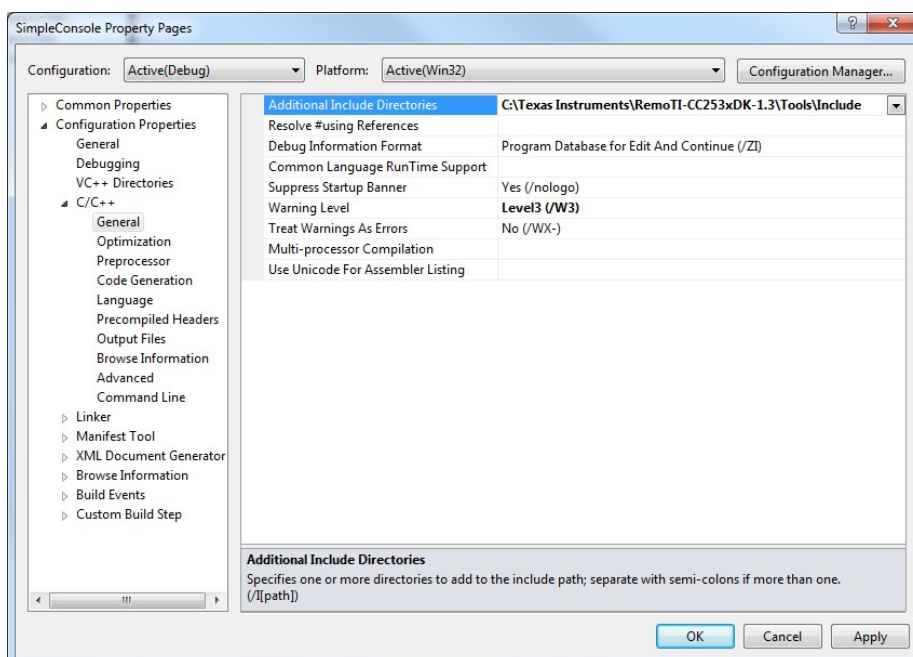

Figure 6. VC++ Express Include Directory Configuration
- a. Go to C/C++ and the general category and add “C:\Texas Instruments\RemoTI-CC253xDK-1.3.1\Tools\Include” to Additional Include Directories. See Figure 6.